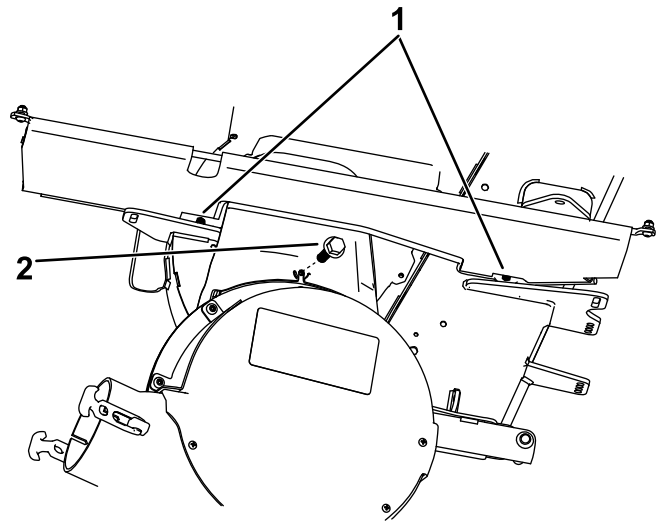

Figure 3
- Install the new guard rod behind the curtain and secure it with the 2 new hex-washer-head screws (1/4 x 5/8 inch) (Figure 3).